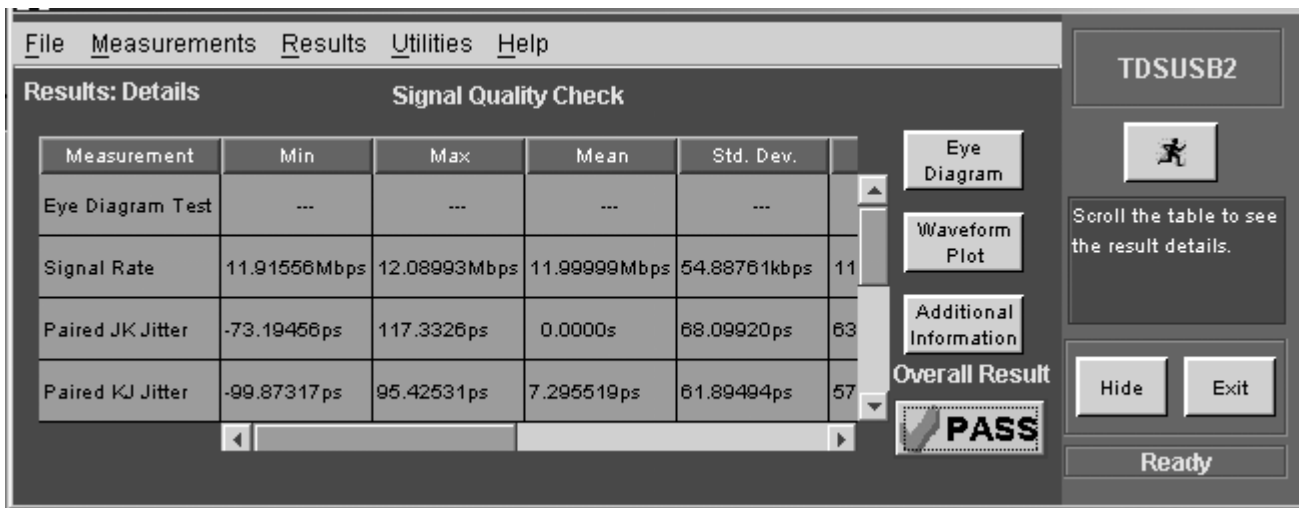

Figure 2-63: Detailed results for full speed signal quality for downstream testing
3. From the application menu, select Results> Details. Figure 2-63 shows the detailed results.